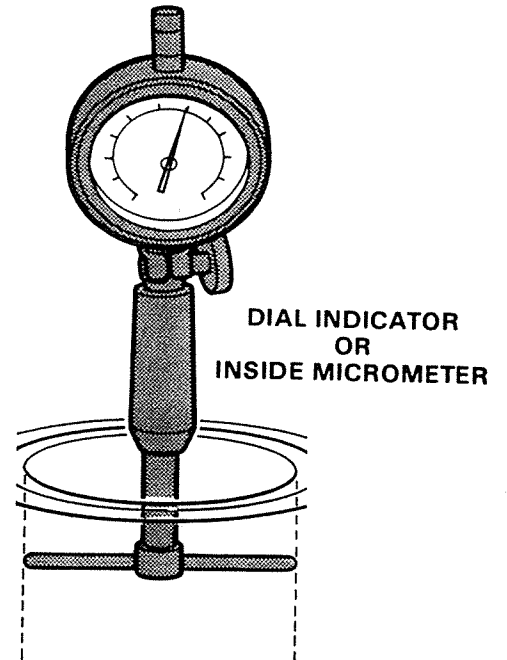

Figure 15. Measuring Cylinder.
- B. Measure the I.D. of cylinder bore at three points with an inside micrometer or dial indicator. Measure 1/4" (6.35 mm) down from top, 1/4" (6.35 mm) up from exhaust port and about 3/16" (4.76 mm) down from lower edge of intake port. Also take measurements 90° from first set. Figure 15.